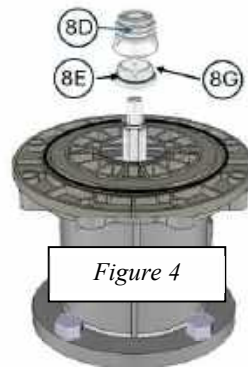
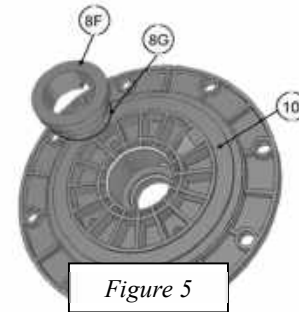

Figure 4
Figure 5
3- After removing the impeller, check the mechanical seal, bellows (8D), rotating ring (8E) and o-ring (8G) for wear (Figure 4). Remove the cover (10) from the lantern and check the condition of the static ring (8F) and o-ring (8G) (Figure 5)